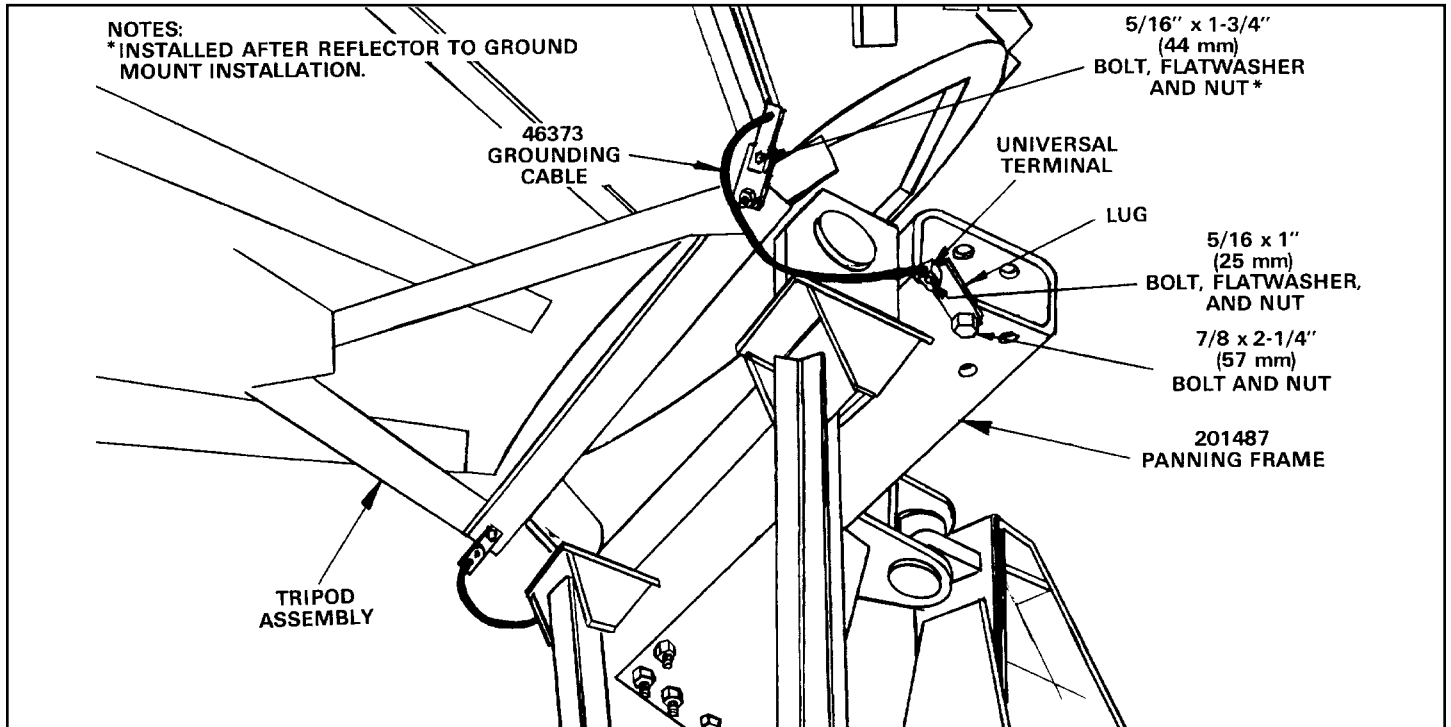

Figure 69
- Step 2** Refer to Figure 69. Attach lugs to universal terminals at each end of 46373 grounding cable as shown, using 5/16 by 1 inch (25 mm) bolts, flat washers and nuts. Attach cable to available hole in panning frame, using 7/8 by 2-1/4 inch (57 mm) bolt and nut. Attach other end of cable to existing 5/8 by 2 inch (51 mm) bolt on tripod as shown. Attach second grounding cable to other side of elevation axis/panning frame assembly.